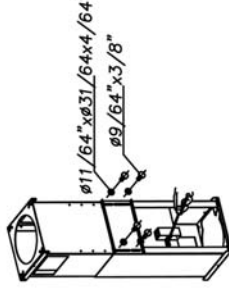

Fig. 3
- Adjust the length of the telescopic structure and attached the two pieces with 8 screws and washers. Bear in mind that the minimum distance from working surface to the base of the hood should not be less than 22" (Fig. 3).
- Run three wires, two for the power supply and the ground wire, from the connection box on the canopy to a power connection point near the installation. See Fig. 3